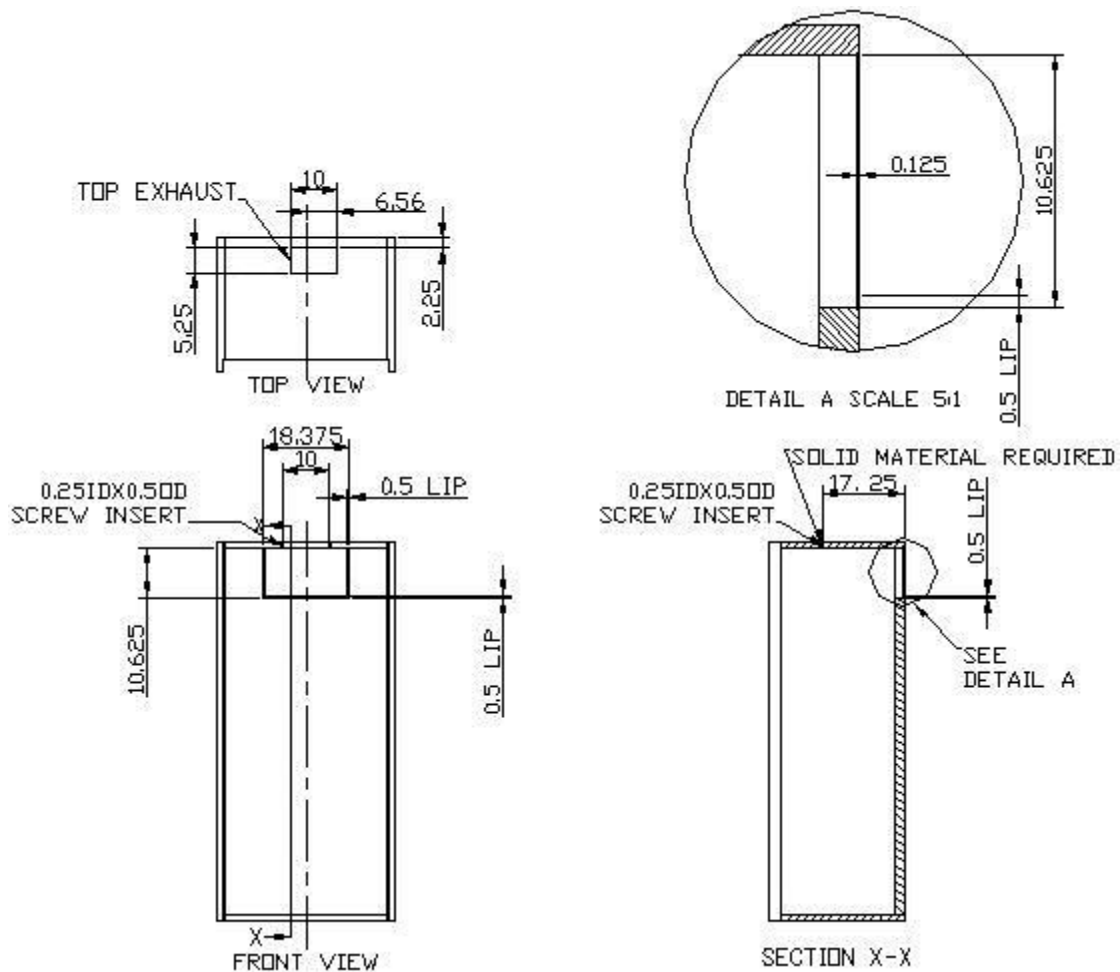

Fig. 2.1 CUTOUT AND HOLE DIMENSIONS
- Cut a rectangular inside opening at the rear of the cabinet with the 1/4" clearance inwards to the width and height of the cooling unit. By not going through, leave 1/2" lip inside at the wall to place the gaskets (see Fig. 2.1 & 2.2).
- If top exhaust installation, cut another rectangular opening at the top of the cabinet to the length and width of the top exhaust (see Fig.2.1 & 2.3).
- Install 2 pieces of 1/4" ID wood thread inserts at the ceiling (see Fig.2.1 & 2.4).
- Place the gaskets (1/2" foam tape) on the gasket lips (see Fig 2.1 & 2.5).